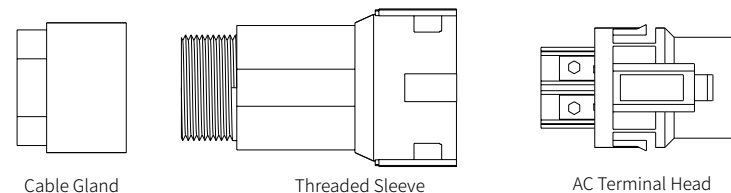

Figure 4-16
① Take the AC connector out of the accessory bag and disassemble it, as shown in Figure 4-16: